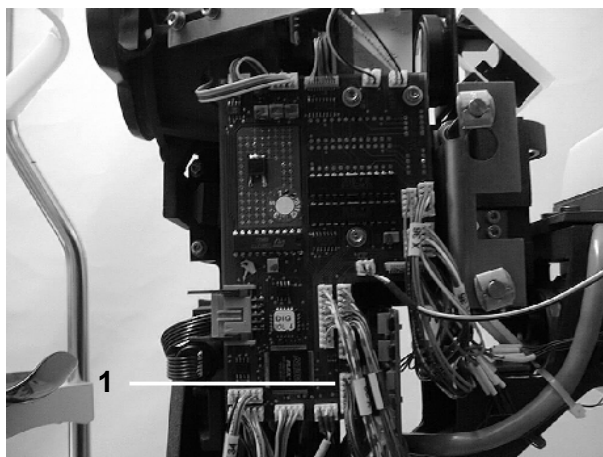

Fig. 18a
- Disconnect plug-in connection ((1) Fig. 18a).
- Re-establish plug-in connection (1) Fig. 18a).